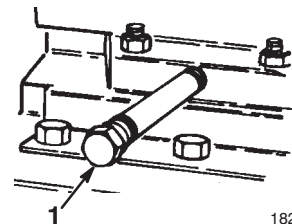

Figure 31
3. Clean the area around the oil drain plug (Fig. 31).